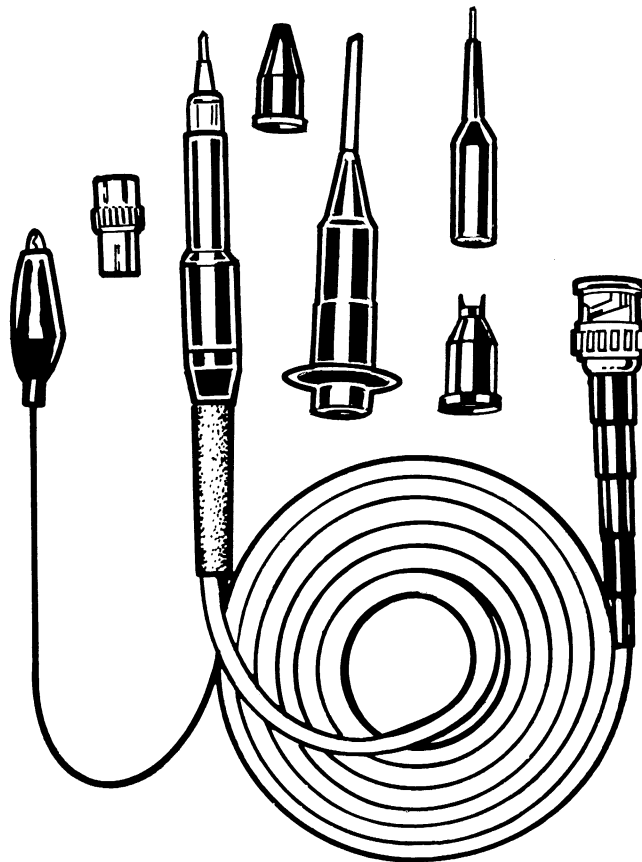

Figure 4-1. Low Capacitance Probe, Model 00791
4.7 LOW CAPACITANCE PROBE (Figure 4-1)